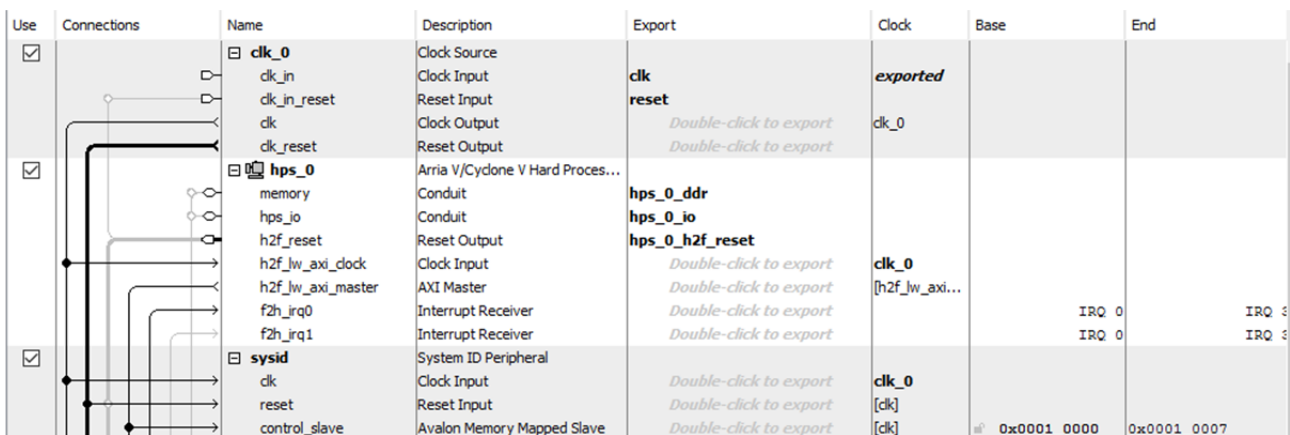

Fig. 33: Connection of the peripheral to the HPS
13. Add a SYSID peripheral selecting it in Basic Functions->Simulation Debug and Verification->Debug Performance->System ID. Connect SYSID clock and Avalon Bus as depicted in Fig. 33.